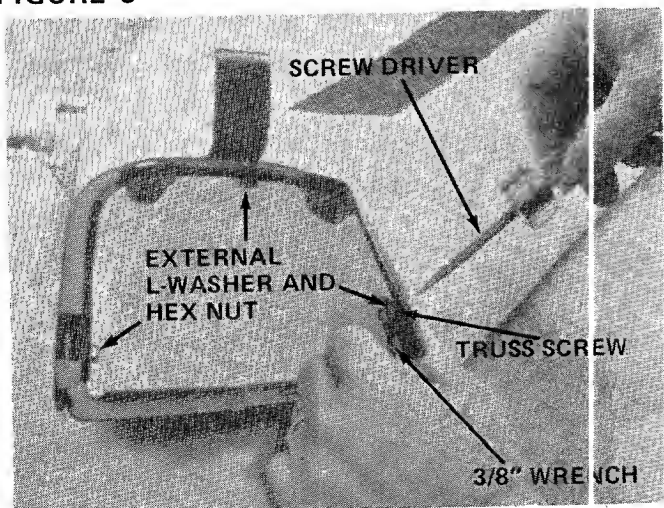

FIGURE 4
5. Slip the elastic mouth of the bag in the groove in the frame. Line up grommets in bag with holes in frame. Secure using three truss machine screws (9), Lock washers (10) and hex nuts (11). See figure 4.